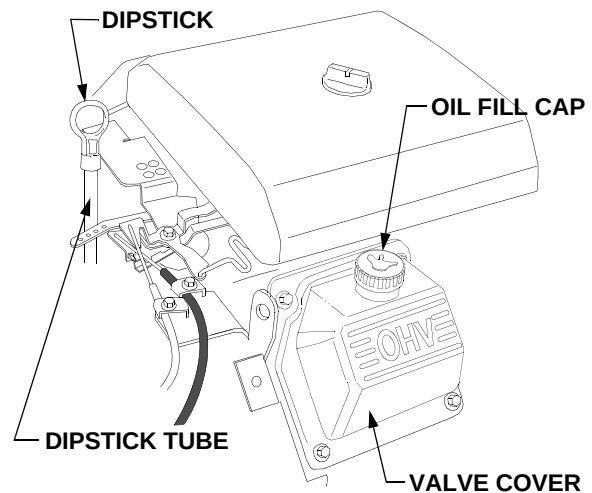

Figure 42
- Check the oil level only while the engine is stopped and the tractor is level. Clean the area around the oil level dipstick to prevent debris from entering the crankcase. See Figure 42.
- To check the oil level, withdraw the dipstick and wipe it clean; then insert the dipstick all the way into the tube before withdrawing it for a true reading. See Figure 42.
- Clean the area around the oil filler cap to prevent debris from entering the crankcase. Refer to Figure 42.